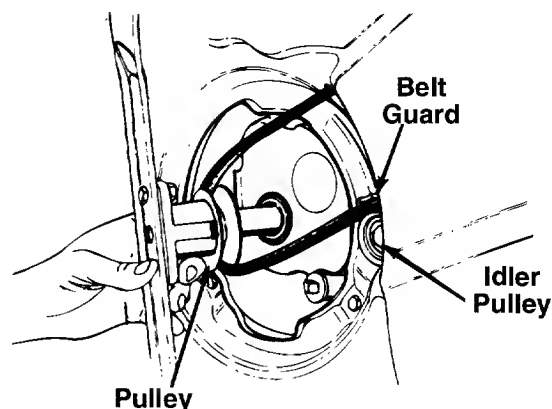

FIGURE 15.
7. Remove the belt from between the idler pulley and the belt guard on the idler pulley bracket. Refer to figure 15.
- C. Release the idler pulley so it falls down into position. Slide the belt in between the idler pulley and belt guard on the idler pulley bracket as shown in figure 15.